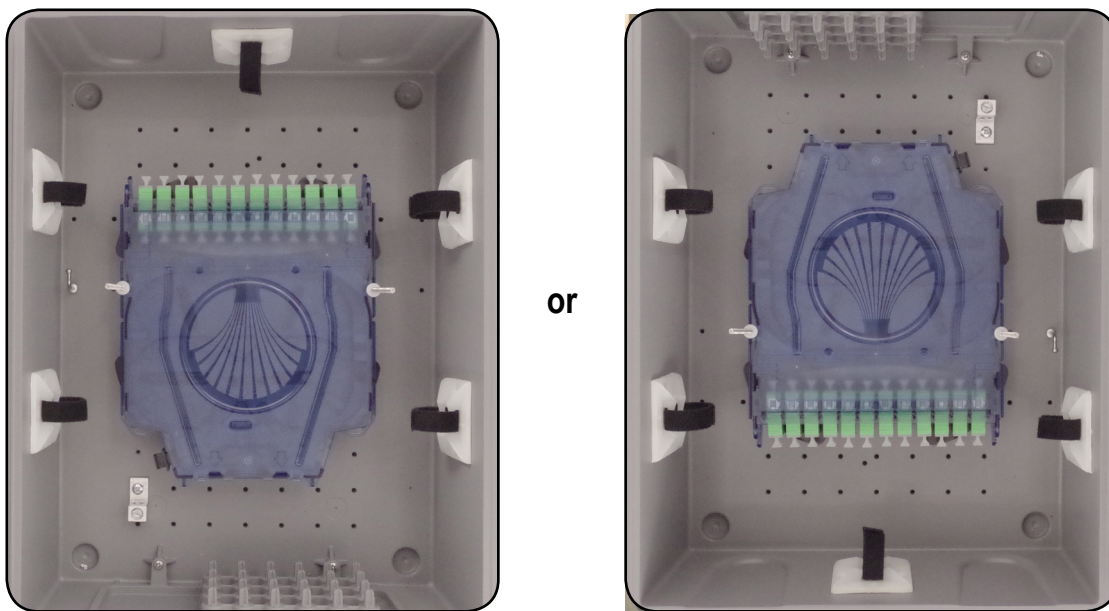

Figure 7
2. Flex Box is now ready to accept fiber (**Figure 7**).